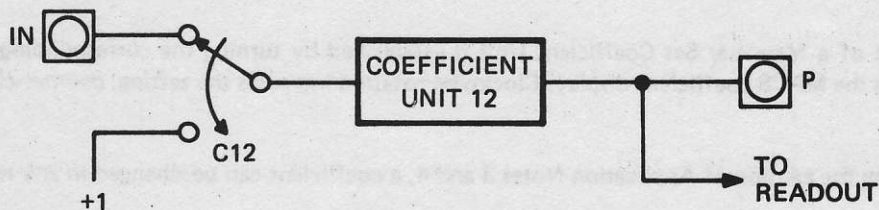

Figure 4.3 Coefficient Setting Scheme
*A COEFFICIENT ADDRESS SHOULD NOT BE DISPLAYED WHILE A PROGRAM IS RUNNING. When a "C" address is displayed the corresponding input is switched from its program panel terminal to a positive reference source (see Figure 4.3). While this action yields the desired analog coefficient readout it also affects the product output. As a good procedure, it is recommended that the processor be placed in the Quiescent (QT) Mode prior to reading or setting coefficient values.*